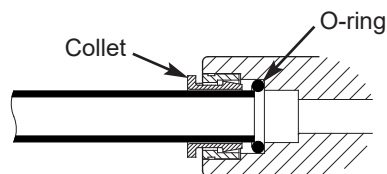

FIG. 9
**NOTE:** A common mistake is to stop pushing the tube when it hits the internal metal collar or o-ring (Fig. 9). Make sure to push past these, until at least 5/8" (16 mm) of tube is inserted.